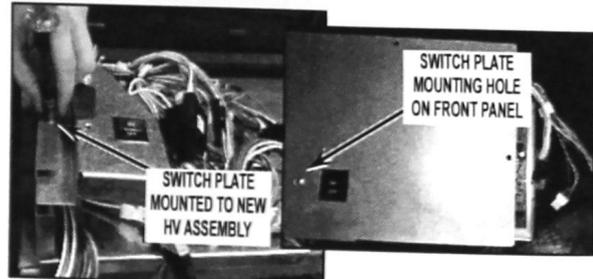

FIGURE 25
**IMPORTANT:** Depending on model, the switch plate assembly will need to be attached to either the front panel or the new HV Assembly. If the front panel has a hole for mounting the switch plate assembly, switch plate assembly will be attached to the front panel, otherwise, it will be attached to the new HV box. See Figure 25.